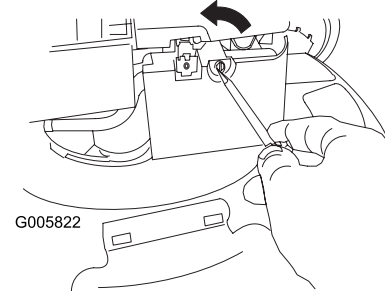

Figure 21
1. Use a screw driver to open the air filter cover (Figure 21).